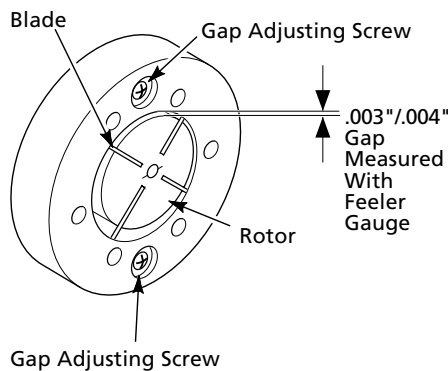

Figure 25 - Gap Adjusting Screw Locations
9. Check gap on rotor. Adjust to .003"/.004" if needed (See Figure 25).